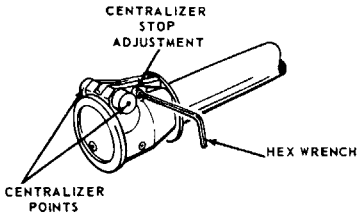

FIGURE 3
2. See Figure 3. Insert 5/64" Hex Wrench into Centralizer Stop Adjustment. Rotate Wrench to retract or expand Points until they barely contact the walls of the bore.